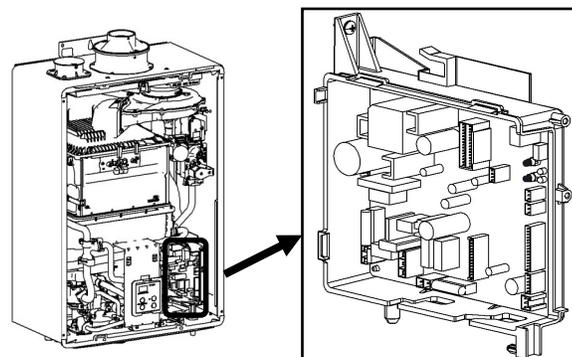

Figure 2: PC Board
3. In the primary water heater, locate the PC board in the bottom, right corner (Figure 2).